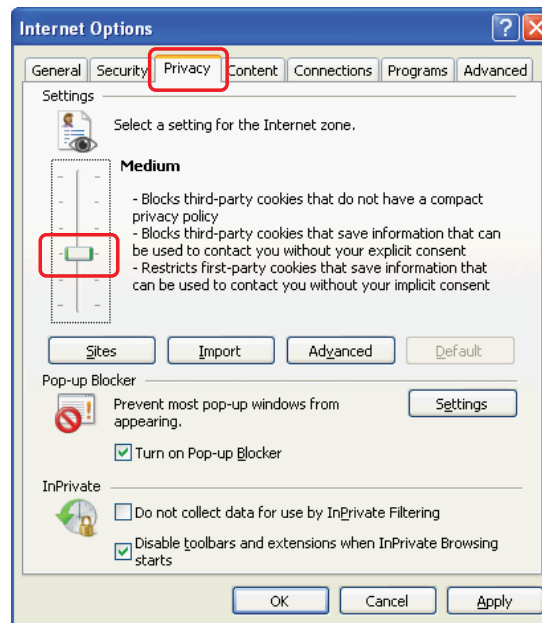

Figure 115. Internet Privacy Options
1. Open Internet Explorer and select **Tools > Internet Options**. The Internet Options window appears (see figure 115).
2. To enable cookies, select the **Privacy** tab and (if required) adjust the slider control to set the required security level. The SME 100 operates correctly when using security that **does not** exceed the **Medium** setting (see figure 115).